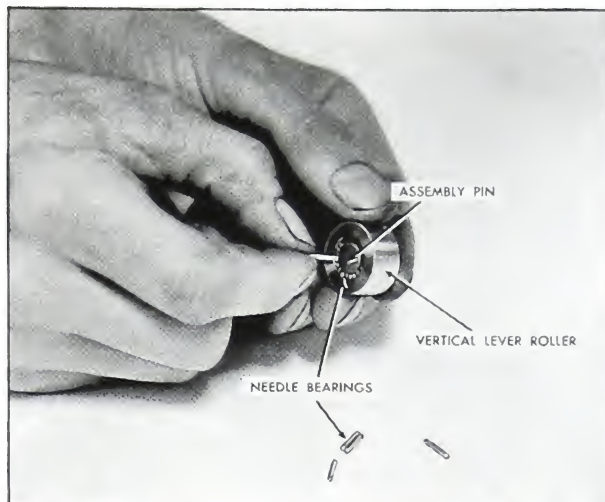

Fig. 5-102. Vertical lever roller and needle bearings
3. Place the roller on the index finger and put the arbor of ST-6 in the hole. Fill the hole with 22 long needle bearings. (Fig. 5-102).